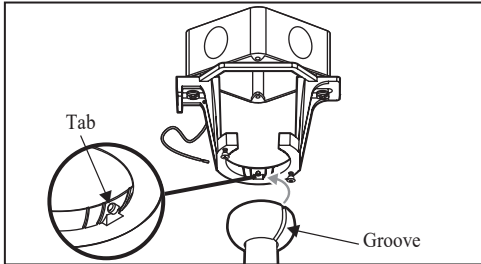

Figure 10
4. Carefully lift the fan assembly up to the ceiling mounting bracket and seat the hanger ball in the mounting bracket socket. Make sure the tab on the mounting bracket socket is properly seated in the groove in the hanger ball (Figure 10). This will help to balance the ceiling fan.
THE TAB IN THE RING MUST REST IN THE GROOVE OF THE HANGER BALL AS FIGURE 10. FAILURE TO PROPERLY SEAT THE TAB IN THE GROOVE COULD CAUSE DAMAGE TO WIRING.